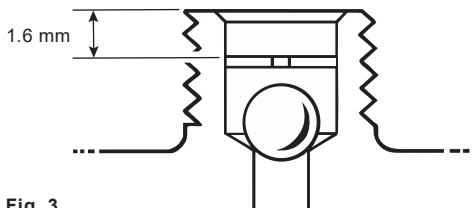

Fig. 3
- Unscrew the cap (1) from the body.
- The float (4) can then be detached from the lever and the mechanism removed by undoing the screw (8) in the centre of the cap.
- The valve cone (5) is easily changed once the float has been removed.
- The check valve should be fitted into the outlet port and held loosely by the circlip, which is fitted 1.6 mm below the level of the outlet as shown in Fig. 3.